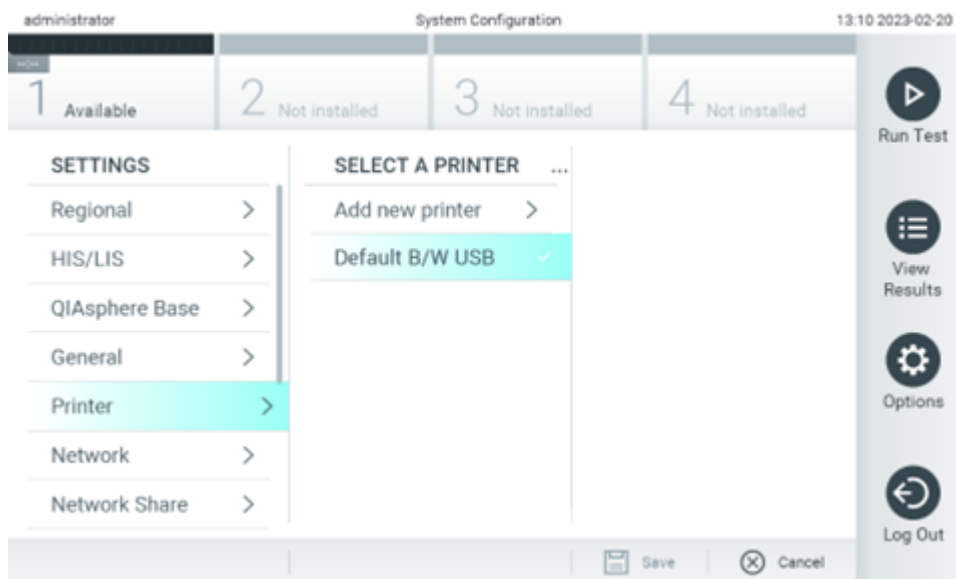

Figure 103. Printer installation with default driver.
2. Select Default B/W USB as the default printer (Figure 103).